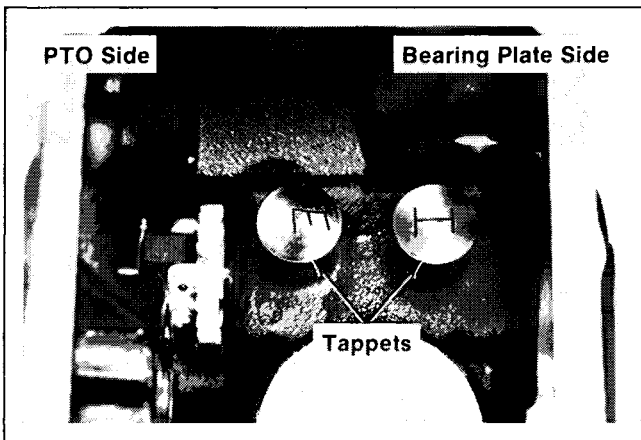

Figure 12-4. Installing Tappets.
1. Install the intake valve tappet and exhaust valve tappet into crankcase. (Intake valve tappet towards bearing plate side; exhaust valve tappet towards PTO side of crankcase.) Refer to Figure 12-4.
- Align the primary timing marks on balance gears with the teeth on timing tool. Insert the tool so it meshes with the gears. Hold or clamp the tool against oil pan gasket surface of crankcase. Refer to Figure 12-4.